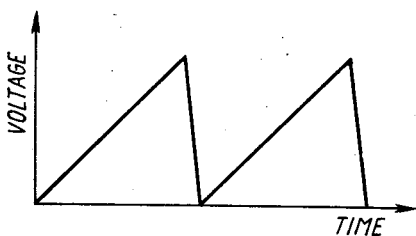

Fig. 8. Saw-tooth scanning waveform for horizontal sweep
5. Scanning is accomplished by deflecting electron beams. To do this a deflection voltage must pull the electron beam horizontally across the tube. The amplitude of this voltage must rise linearly to provide equal increments in amplitude for equal intervals of time. At the end of each scanning line the deflection voltage must fall back to zero in minimum time; that is, the retrace must be as short as possible. A waveform that provides this relatively slow linear rise in amplitude and rapid retrace to zero has the appearance of the teeth of a saw and hence, is called a saw-tooth waveform. The saw-tooth scanning waveform for horizontal scanning called sweep is shown in Fig. 8.